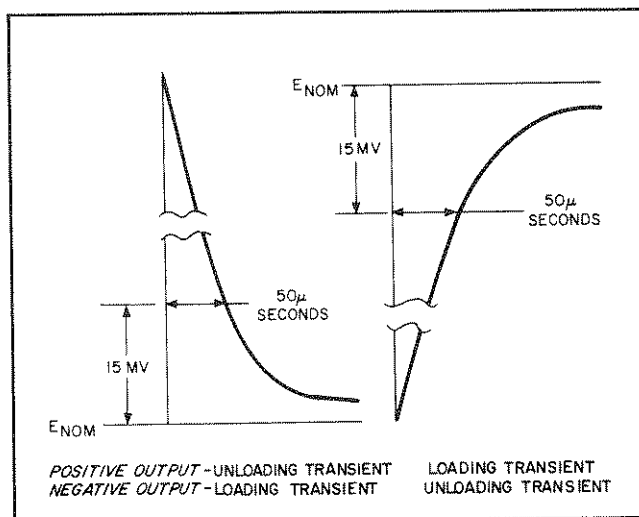

Figure 5-6. Load Transient Recovery Time Waveforms
- i. Starting from the major graticule division representing time zero, count to the right  $50\mu\text{sec}$  and vertically  $15\text{mV}$ . Recovery should be within these tolerances, as illustrated in Figure 5-6.